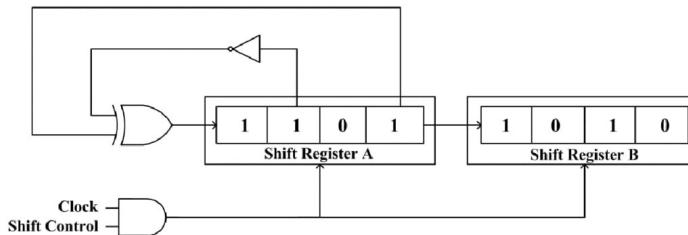

Fig. 5.12: circuit Diagram
12. In the circuit shifter in Fig. 5.12, the initial binary content of the shift register A 1101 and that of shift register B is 1010. The shift registers are positive edge triggered, and the gates have no delay. When the shift control is high, what will be the binary content of the shift registers A and B after clock pulses?